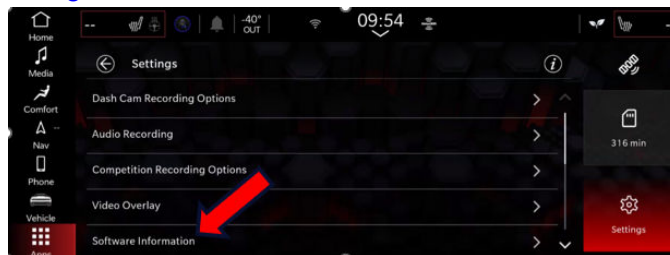

Fig. 5
- 8. Click on Software Information Fig. 5.